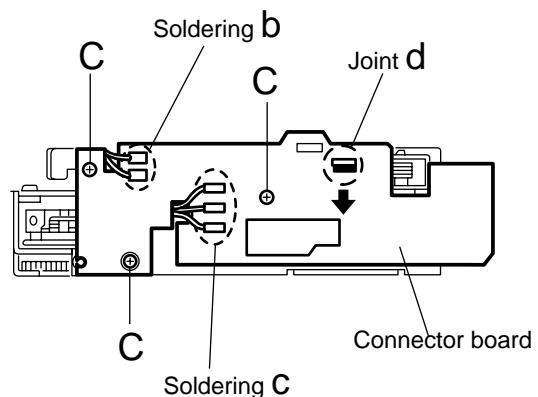

Fig.3
■ Removing the connector board (See Fig.3)